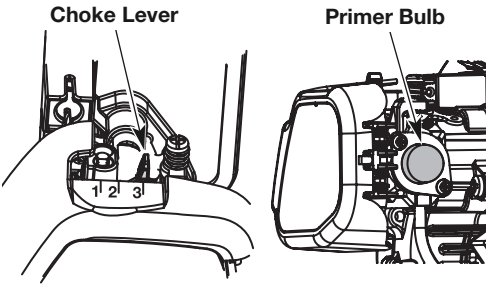
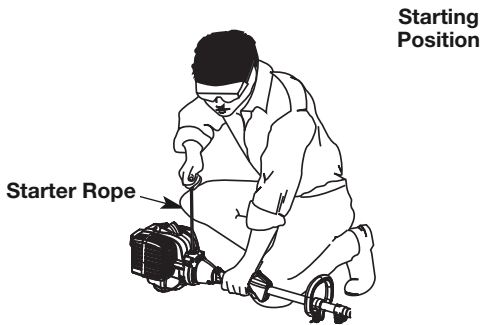

Fig. 7
Fig. 8
WARNING: Avoid accidental starting. Make sure you are in the starting position when pulling the starter rope (Fig. 8). To avoid serious injury, the operator and unit must be in a stable position while starting.
- Fully press and release the primer bulb 10 times, slowly. Some amount of fuel should be visible in the primer bulb and fuel lines (Fig. 7). If fuel can not be seen in the bulb, press and release the bulb until fuel is visible.
- Place the choke lever in **Position 1** (Fig. 7).
- Crouch in the starting position (Fig. 8). Squeeze the throttle control lever. Pull the starter rope 5 times.
- Place the choke lever in **Position 2** (Fig. 7)
- Continue squeezing the throttle control, move the choke lever to **Position 3** (Fig. 7) and continue warming the engine for an additional 60 seconds. The unit may be used during this time.
IF...the engine hesitates, return the choke lever to **Position 2** (Fig. 7) and continue warm-up.
- Fully press and release the primer bulb 10 times, slowly. Some amount of fuel should be visible in the primer bulb (Fig. 7). If fuel cannot be seen in the bulb, press and release the bulb until fuel is visible.
- Move the choke lever to **Position 1** (Fig. 7).
- Crouch in the starting position (Fig. 8). Place the electric starter or power start bit into the back of the unit. Refer to the Operation section of the Electric Starter or Power Start Bit operator’s manual.
- Squeeze the throttle control lever. Press and hold the electric starter or drill ON (I) button for 2 seconds.
- Move the choke lever to **Position 2** (Fig. 7).
- Squeeze the throttle control lever, press and hold the electric starter or drill ON (I) button for 2-second intervals until the unit starts.
- Continue squeezing the throttle control, move the choke lever to **Position 3** (Fig. 7) and run the unit for an additional 60 seconds. The unit may be used during this time